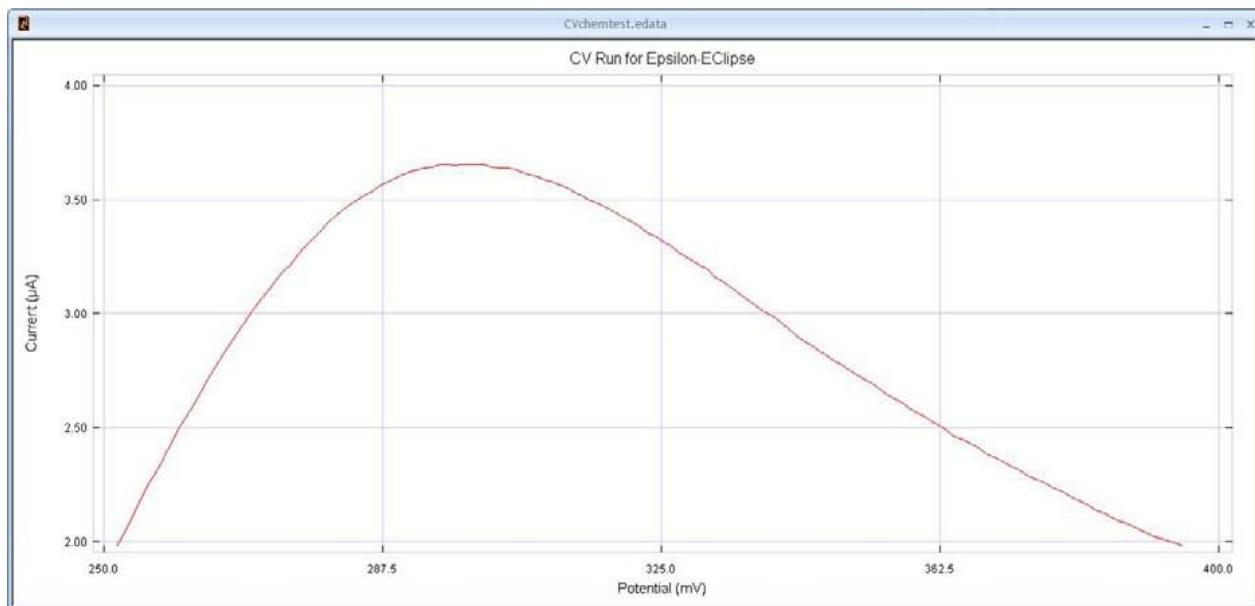
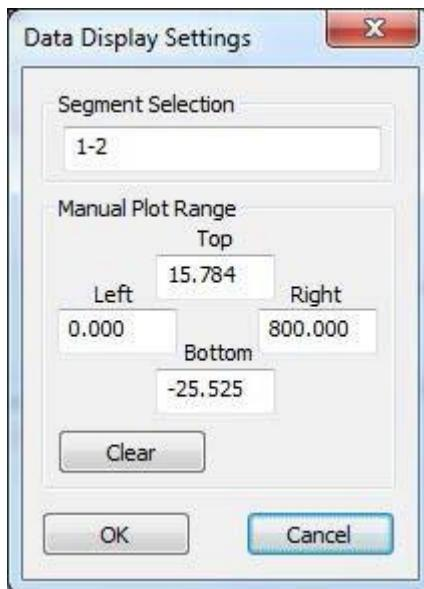

Figure 4 - Enlarged section of the Cyclic Voltammetry graph
Figure 5 - Data display settings dialog box
6. A specific area of the graphic can be enlarged by using the mouse cursor (and the left mouse button) to define the area (Figure 4), by using the mouse scroll to zoom in and out, or by entering the x and y values in the **Data Display Settings** dialog box in the Graph menu (Figure 5). The original graph can be restored using **Zoom Full Range** in the Graph menu.